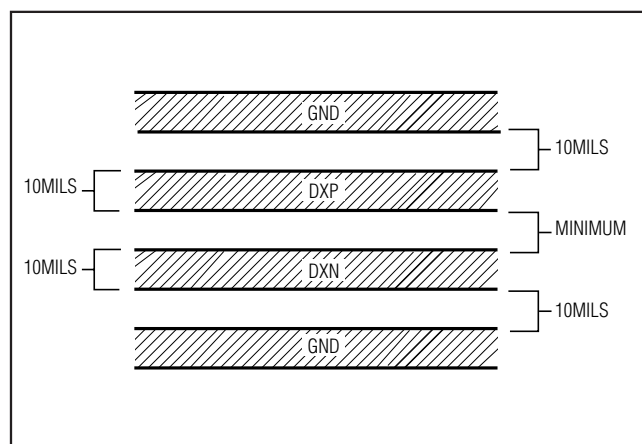

Figure 1. Recommended DXP-DXN PC Traces
- 3) Route the DXP and DXN traces in parallel and in close proximity to each other, away from any higher voltage traces, such as $+12\text{VDC}$. Leakage currents from PC board contamination must be dealt with carefully since a $20\text{M}\Omega$ leakage path from DXP to ground causes about $+1^{\circ}\text{C}$ error. If high-voltage traces are unavoidable, connect guard traces to GND on either side of the DXP-DXN traces (Figure 1).
- 6) Use wide traces. Narrow traces are more inductive and tend to pick up radiated noise. The 10mil widths and spacings that are recommended in Figure 1 are not absolutely necessary, as they offer only a minor improvement in leakage and noise over narrow traces. Use wider traces when practical.